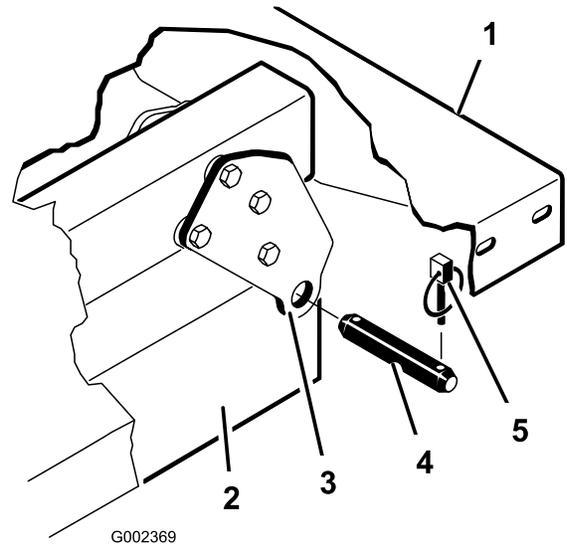

Figure 34
**Note:** Ensure that the rear pivot plates are bolted to the bed frame/channel so that the lower end angles to the rear (Figure 34).